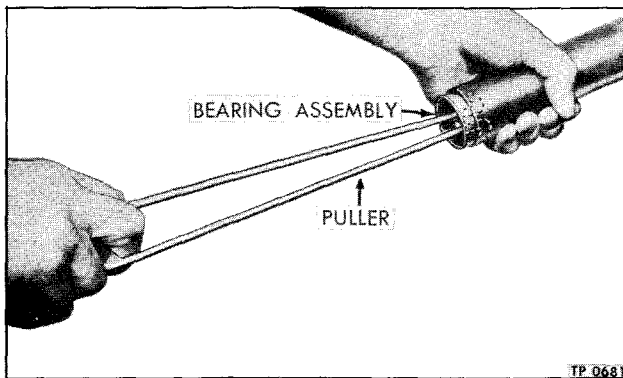

Figure 4—Upper Shaft Bearing Removal
6. Remove shaft bearing assembly from upper jacket tube, using puller similar to that shown in figure 4.
9. Remove lower jacket tube needle bearing assembly from upper end of tube, using puller similar to that shown in figure 4.